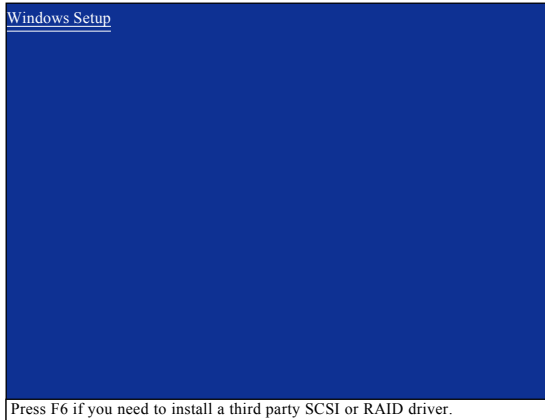

Figure 14
Step 1: Restart your system to boot from the Windows 2000/XP Setup disk and press F6 as soon as you see the "Press F6 if you need to install a 3rd party SCSI or RAID driver" message (Figure 14). After pressing F6, there will be a few moments of some files being loaded before you see the next screen.